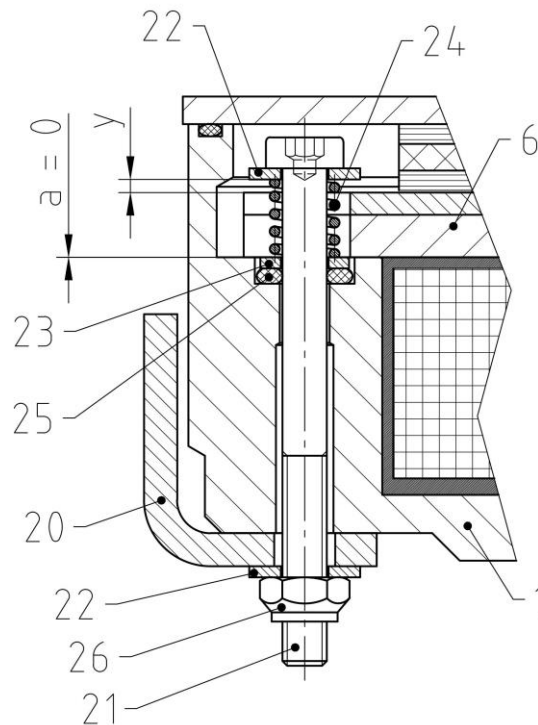

Figure 3.2:
3.1.6 Manual release (Figure 3.2) — *only when assembly or disassembly is carried out by the customer* —
- In contrast to the brakes of the FDW series, the **armature plate** (see **Figure 3.2**) does **not** have to be disassembled.
- **Tighten** the two **actuating screws** (item 21, **Figure 3.2**) until the armature plate (item 6) lies on both sides of the magnet housing → **a = 0**
- **Secure the setting position** by applying thread-locking fluid in the area of the nuts (item 26) on both sides of the brake